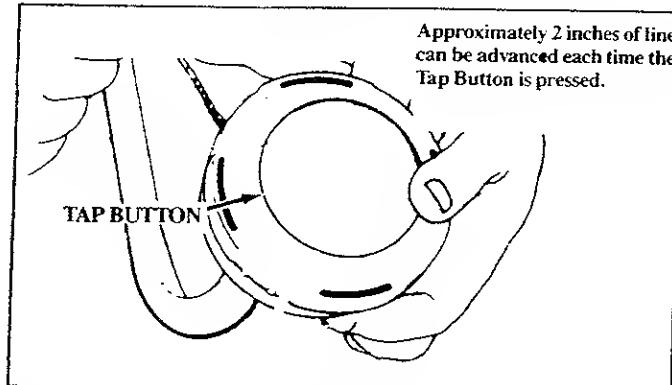

Figure 3
- d. Press the Tap Button and pull the Trimmer Line from the Head a minimum of 4 inches. Figure 3. Approximately 2 inches of line can be advanced each time the Tap Button is pressed.
- b. Extend line 4 inches from Trimmer Head to provide adequate load on engine. Figure 3.